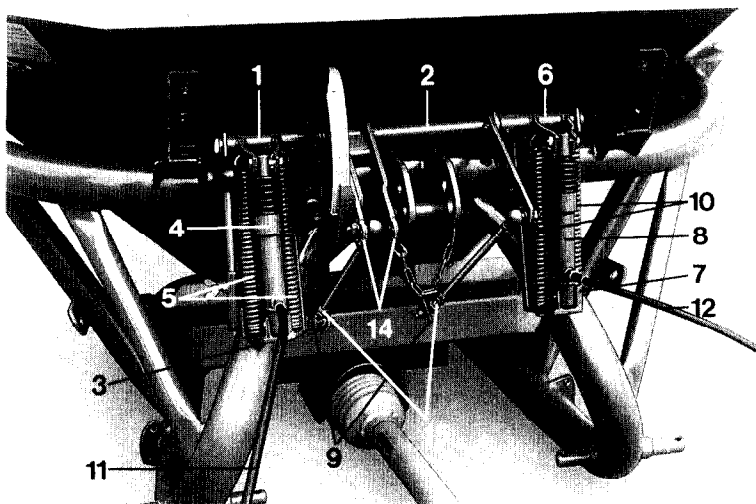
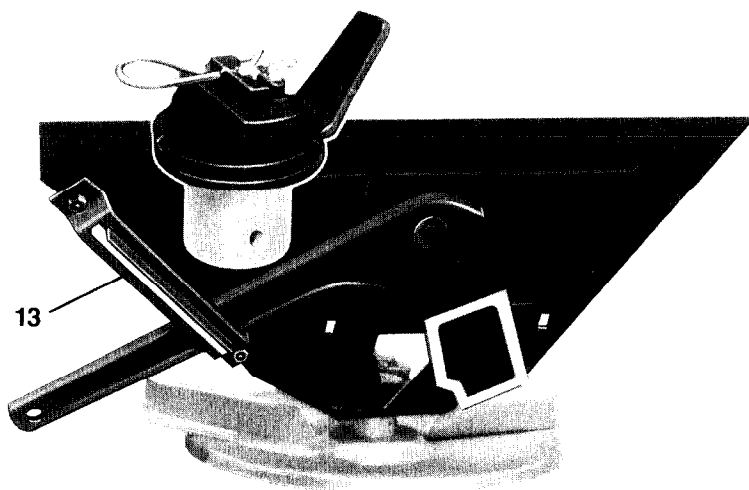

Fig. 17
Fig. 17a
- 5.9.1.6 Loosen both guides (Fig. 17a/13) of the slides (Fig. 17/9), push them all the way upwards. Retighten bolts.
- a) Check the free movement of the shutter slides. If necessary slightly loosen the guides of the shutter slides (Fig. 17/13).
- 5.9.2.1 Lever bracket (Fig. 17/1) should be mounted on the lever arm (Fig. 17/2) and connected with the pins provided.
- 5.9.2.2 Slide the base (Fig. 17/3) onto the lever bracket (Fig. 17/1) and secure with two M 10 x 16 bolts to the frame.
- 5.9.2.3 With the assistance of a small screw jack, mount the hydraulic ram (Fig. 17/4) and connect with M 8 bolt and a small roll pin to the bracket (Fig. 17/1).
- 5.9.2.4 Hook the spring (Fig. 17/5) into the top of the bracket (Fig. 17/1).
- 5.9.2.5 The lever bush (Fig. 17/6) should then be mounted on the left lever rod (Fig. 17/2) and connected with the pin provided.
- 5.9.2.6 Slide the base (Fig. 17/7) with the bolted mounting plate onto the lever bush (Fig. 17/6).
- 5.9.2.7 Connect the hydraulic ram (Fig. 17/8) with the lever bracket (Fig. 17/6) with the M 8 bolt and roll pin provided.
- 5.9.2.8 Extend the hydraulic ram (Fig. 17/8) out fully and close the shutter (Fig. 17/9) completely.
- 5.9.2.9 Line up the ram (Fig. 17/8) which is already on the right side and weld the mounting plate to the frame.
- 5.9.2.10 Hook the spring (Fig. 17/10) into the top of the bracket (Fig. 17/6).
- 5.9.2.11 Insert the bolts through the lower part of the ram mounting (Figs. 17/3 and 17/7) and tension the springs (Figs. 17/5 and 17/10) fully.
- 5.9.2.12 Loosen both guides (Fig. 17a/13) of the slides (Fig. 17/9), push them all the way upwards. Retighten bolts.
- 5.9.2.13 Connect the hydraulic hoses (Figs. 17/11 and 17/12).
- 5.9.2.14 Check the function. In case of stiff movement disconnect the springs (Fig. 17/5 and 17/10) and disconnect hydraulic hose (Fig. 17/11 and 17/12). By actuating the control levers (Fig. 17/14) the shutter slides should then move easily. If movement still is stiff, disconnect the lifting rods at the ball joints (Fig. 17/15) and
- b) Check the free movement of the pivot shaft (Fig. 17/2). If necessary reset the fixing plate (Fig. 17/3) of the pivot shaft.